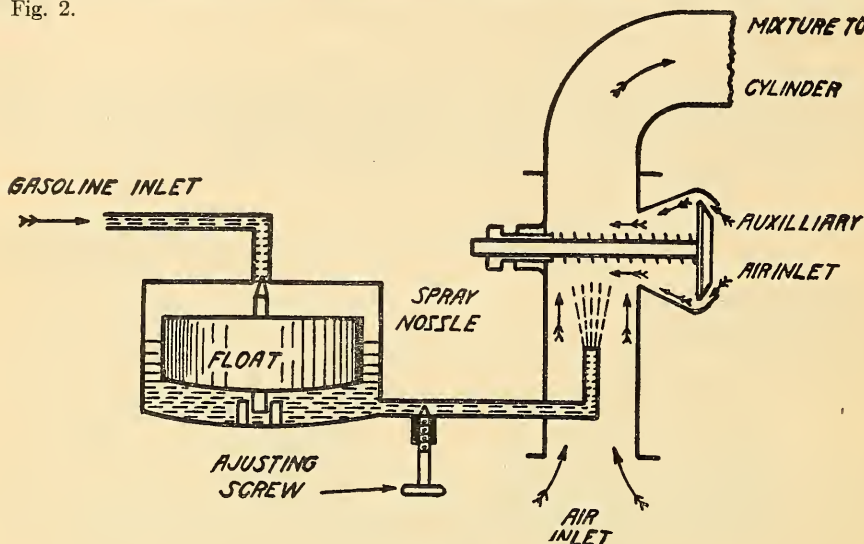

Fig.2
an extra supply of air is admitted when the air current flows so fast that it results in too rich a mixture. The extra supply of air is admitted through an auxiliary air inlet valve, as shown in Fig. 2.
22. The type of gasoline needle valve shown in Fig. 2 is of the hand-operated type, being adjusted by hand only occasionally; other types are the mechanically-operated needle valve operated by movement of the throttle by hand through a cam arrangement, and the automatic mechanically operated needle valve, operated by action of the auxiliary air valve. These are called metering pins.
24. In some carburetors the extra air inlet is arranged so that an enlargement of the main air intake is made instead of having a separate air intake. While this works fairly well, it is not as good as if it were placed so that the extra air is admitted above the spray nozzle, so that it dilutes the mixture. The auxiliary air valve type of carburetor which is shown in Fig. 2 may be considered to-day the simplest form of carburetor which operates satisfactorily, and there are several different models now being manufactured which are based upon the principle of the auxiliary air valve only.
17. Explain operation of carburetor shown in Fig. 2.